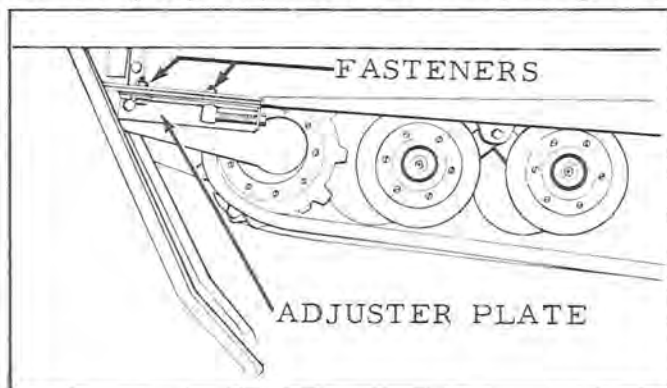

Figure 1
3. Release track tension by removing both right hand and left hand adjuster plates. Remove all fasteners holding adjuster plates to the frame (See Figure 1).